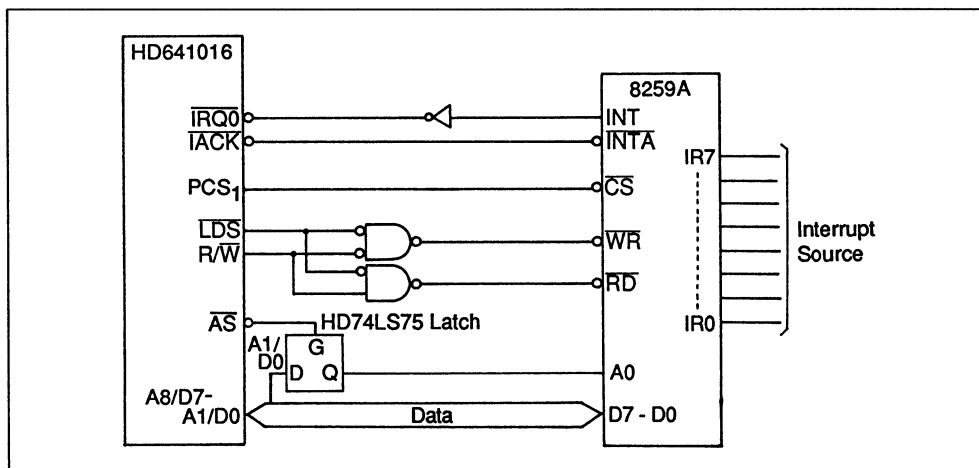

**Figure 4-80. Single Acknowledge Mode Application**
**Single Acknowledge Mode Interrupt Application:** Single acknowledge mode allows an external circuit to generate multiple vector numbers for each external interrupt source. The system in Figure 4-80 generates only one vector number for each source. However, multiple vectors can be generated using a daisy-chain scheme and external circuits. During the interrupt acknowledge cycle, A3-A1 of the address bus indicate the interrupt source as shown in Table 4-37. External devices put the vector number on the lower 8 bits of the data bus.